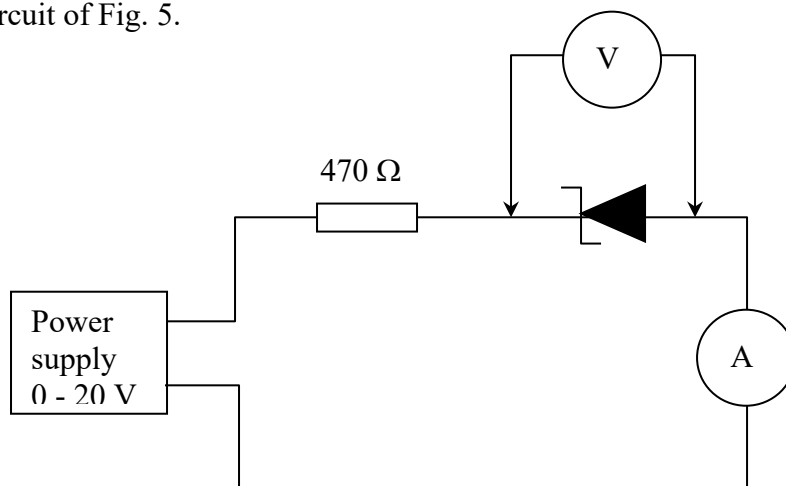

Fig. 5: Zener diode measurement circuit
- Set up the circuit of Fig. 5.
- a. For the circuit of Fig.5, measure the change in V_Z when the voltage supply is changed from +12 to +14 V.